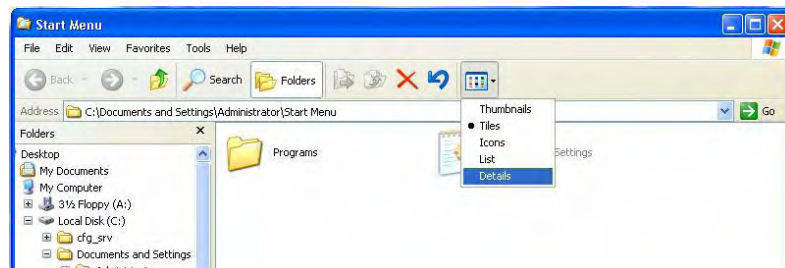

Figure 1-25. Explorer Window - Select View Details
2. Click on the **Views** icon in the taskbar. The "View" pull-down menu is displayed. Select **Details** (Figure 1-25).